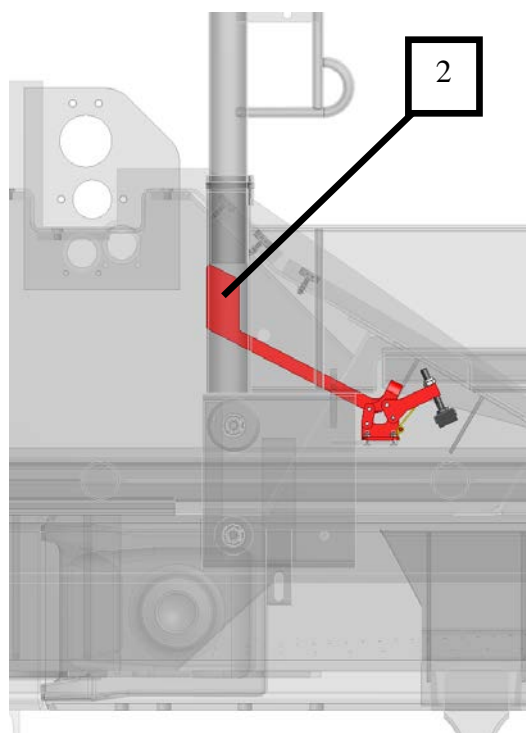

Figure 6 Open position of the tarpaulin brake
For opening tarpaulin brake, positioning of lever (2) must be according to the figure 6.